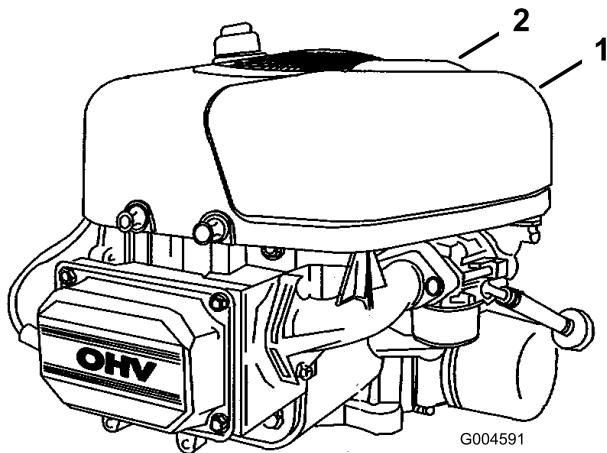

Figure 23
4. Pull up on the air cleaner cover handle and rotate it toward the engine (Figure 23) and remove the air cleaner cover.